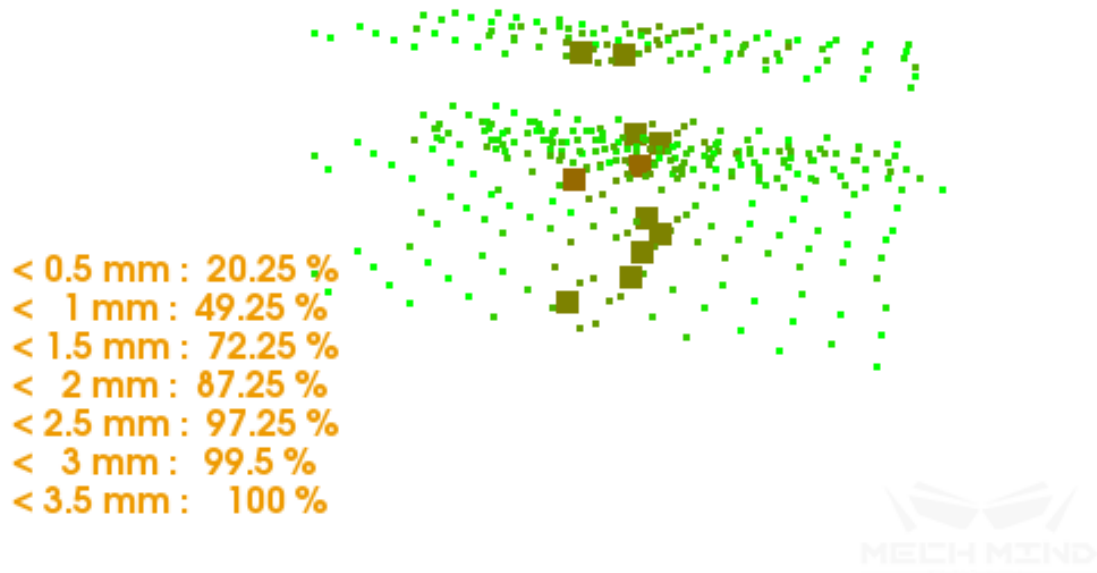

Figure 3 Points with Calibration Error between 2.0mm and 2.5mm
Similarly, as shown in *Figure 3*, pressing the number key 5 will highlight all points with error between 2.0mm and 2.5mm.